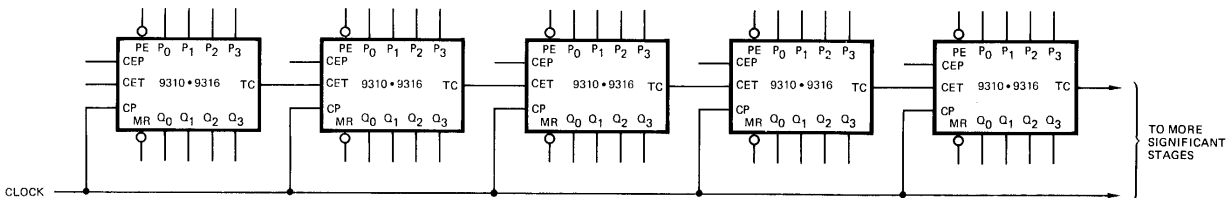

Fig. 8. SYNCHRONOUS MULTISTAGE COUNTING SCHEME (SLOW)
MULTISTAGE COUNTING — The 9310 • 9316 counters may be cascaded to provide multistage synchronous counting. Two methods commonly used to cascade these counters are shown in Figures 8 and 9.
In multistage counting, all less significant stages must be at their terminal count before the next more significant counter is enabled. The 9310 • 9316 internally decodes the terminal count condition and "ANDs" it with the CET input to generate the terminal count (TC) output. This arrangement allows one to perform series enabling by connecting the TC output (enable signal) to the CET input of the following stage, Figure 8. The setup requires very few interconnections, but has the following drawback: since it takes time for the enable to ripple through the counter stages, there is a reduction in maximum counting speed. To increase the counting rate, it is necessary to decrease the propagation delay of the TC signal, which is done in the second method.